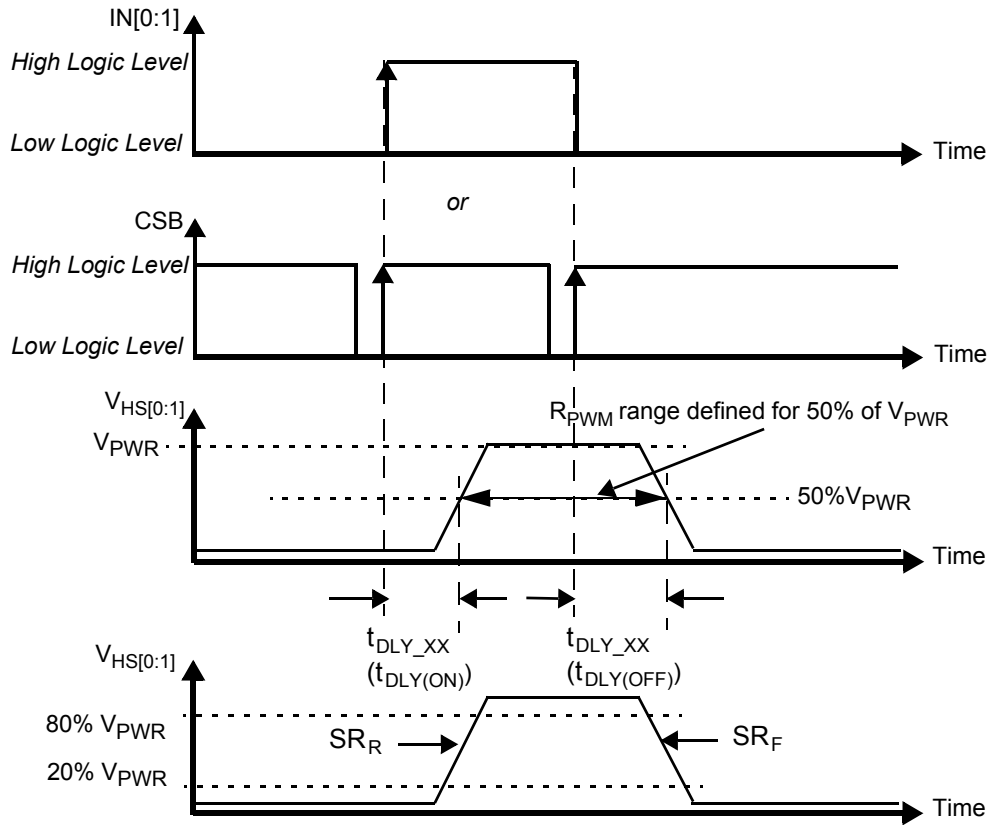
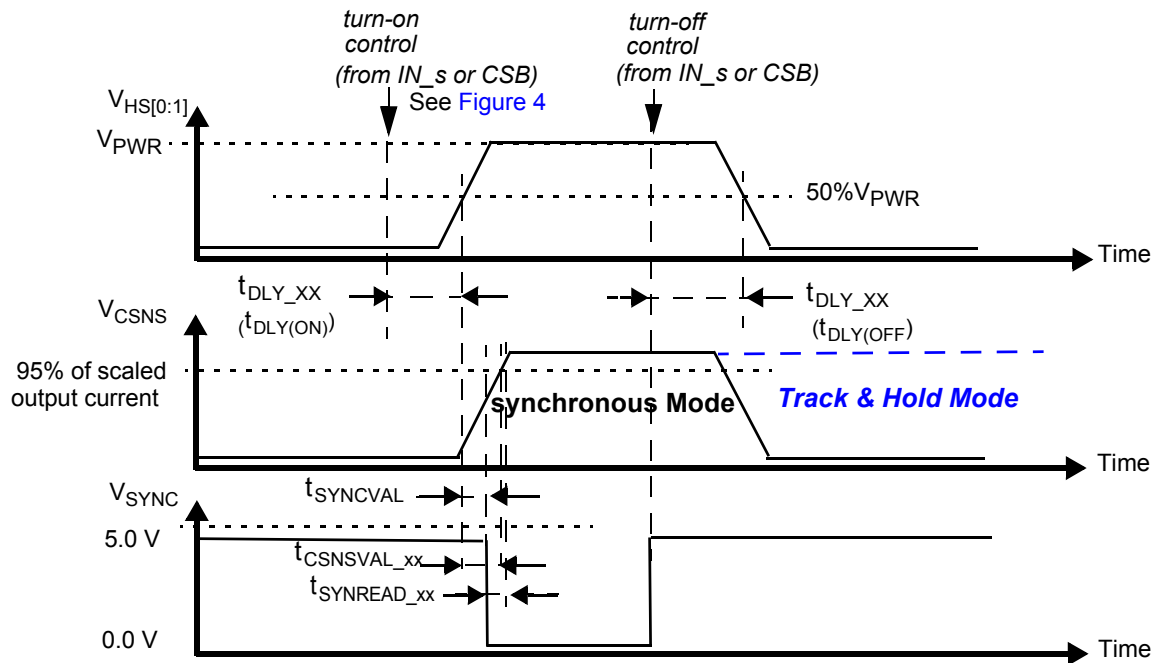

Figure 4. Output Voltage Slew Rate and Delay
Figure 9. Synchronous & Track-and-Hold Current Sensing Modes: Associated Delay & Settling Times
- Rising and Falling edge slew rates specified for a 20% to 80% voltage variation on a 10.0 Ω resistive load (see Figure 4).
- Time required to switch off the channel after detection of overtemperature (OT), overcurrent (OC), SC or UV error (time measured between start of the negative edge on the FSB pin and the falling edge on the output voltage until $V(\text{HS}[0:1]) = 50\%$ of V_{PWR}).
- Settling time (= $t_{CSNSVAL_XX}$), SYNC output signal delay (= $t_{SYNCVAL_XX}$) and Read-out delay (= $t_{SYNREAD_XX}$) are defined for a stepped load current using a 10 Ω resistive load for CSNS_RATIO_s = 0. (see Figure 9 and Output Current Monitoring \(CSNS\)).
To synchronize current sensing with an external process, the SYNC signal can be connected to a digital input of an external MCU. SYNC is asserted logic low when the current sense signal is accurate and ready to be read. The current sense signal on the CSNS pin has the specified accuracy $t_{SYNCREAD_XX}$ seconds after the falling edge on the SYNC pin (Figure 9) and remains valid until a rising edge is generated. The rising edge that is generated by the SYNC pin at the turn-OFF instant (internal or external) may also be used to implement synchronization with the external MCU. Parameter $t_{SYNCCVAL_XX}$ is defined as the time between the instant at the middle of the output-voltage rising edge ($HS[0:1] = 50\%$ of V_{PWR}), and the instant at which the voltage on the SYNC-pin drops below 0.4 V (V_{SOL}). The SYNC pins of different devices can be connected together to save micro-controller input channels. However, in this configuration, the CSNS function of only one device should be active at a time. Otherwise, the MCU does not determine the origin of the SYNC signal. The SYNC pin is open drain and requires an external pull-up resistor to V_{DD} .